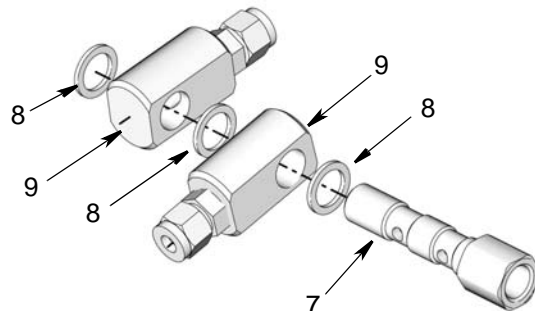

FIG. 12
- Place one washer (8) over the end of the dual banjo bolt (7). Then install banjo fitting (9) on bolt. Install another washer (8) followed by another banjo fitting (9) and then one more washer (8) in the orientation shown in FIG. 12.